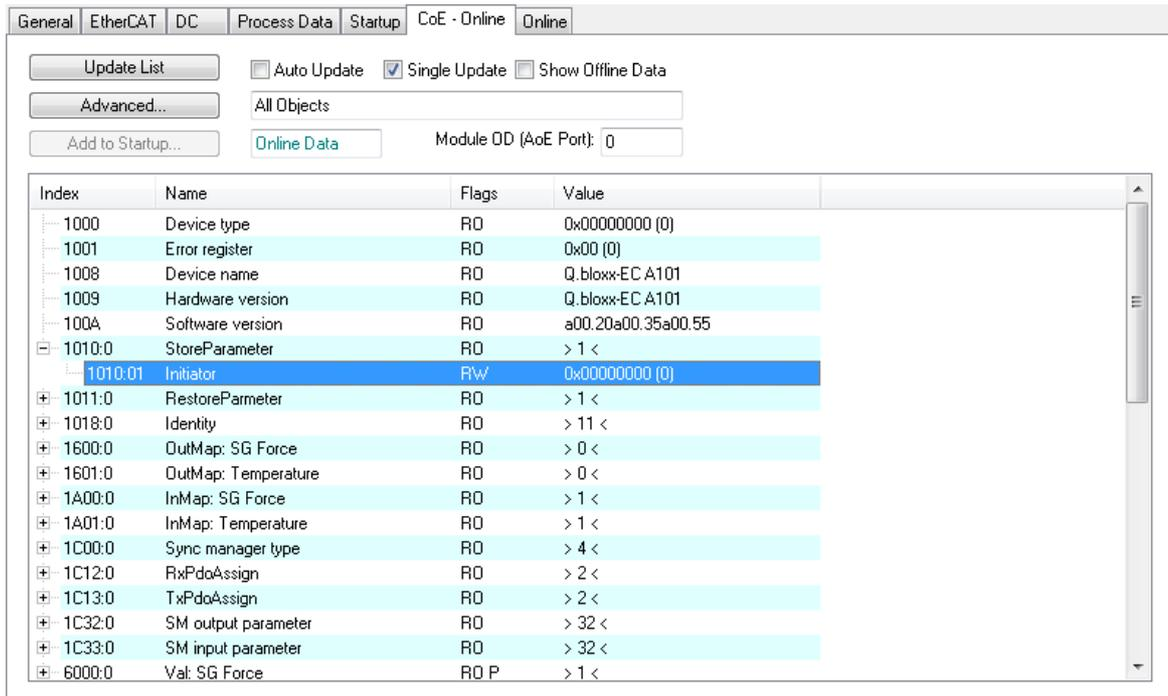

Fig. 6-34 Index 1010:01 (StoreParameter:Initiator) selected.
3. Open up index 1010 (Fig. 6-34).